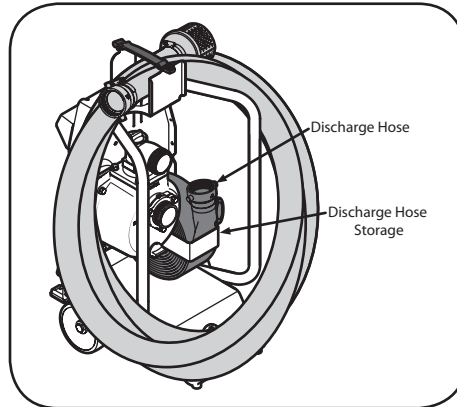

Figure 3-2
2. Roll the discharge hose flat and store it using the discharge hose storage. See Figure 3-2.